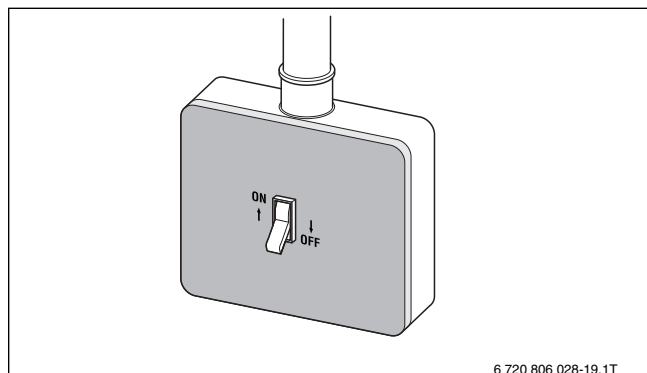

Fig. 29 ON/OFF switch in OFF position
- ▶ Place the ON/OFF switch in the **OFF** position (→ Fig. 29). This shuts off power to the boiler and all of its components (e. g. burner, temperature controller).